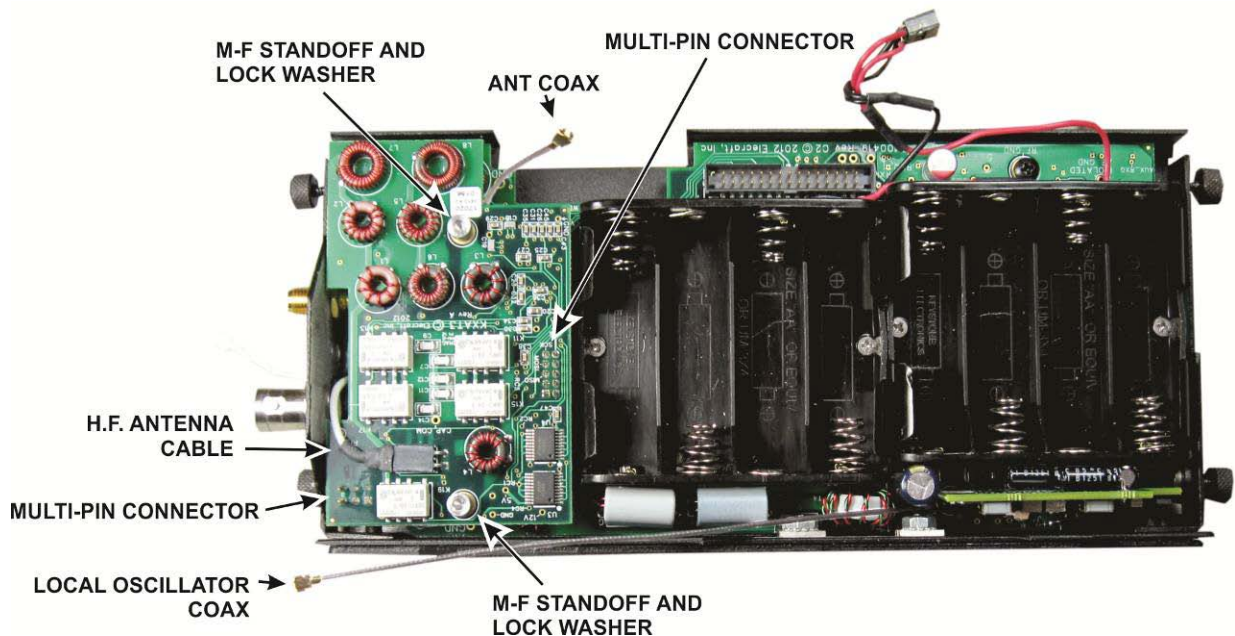

Figure 19. Replacing the KXAT3 ATU.
□ Replace the KXAT3 board as shown in Figure 19 or, if your KX3 is not equipped with the KXAT3 Antenna Tuner option, install the adapter board furnished in its place. Do not disturb the location of the antenna coax you just positioned.